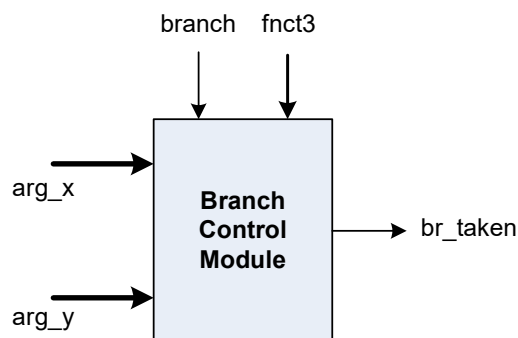

Figure 3.6: Branch control of RV32I.
**Task 1:** In a standard RISC-V ALU whenever we have a branch instruction, the ALU computes it and tells the PC whether or not to jump to the immediate value. Implement the conditional branch module of a standard RV32I using combinational circuits and control constructs. A skeleton code is given in Listing 3.10, start coding in it. Block level diagram of conditional branch module is shown in Figure 3.6.